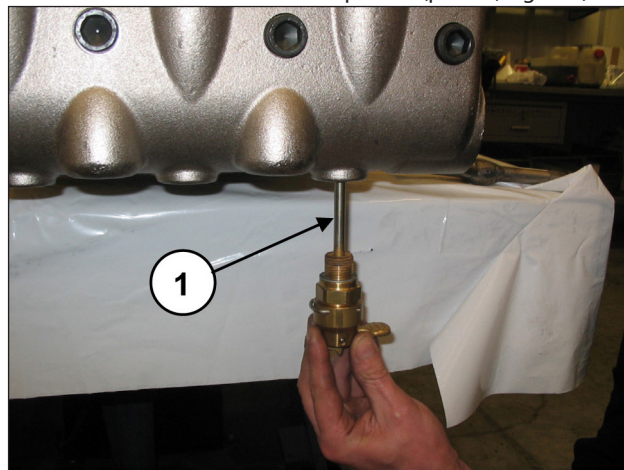
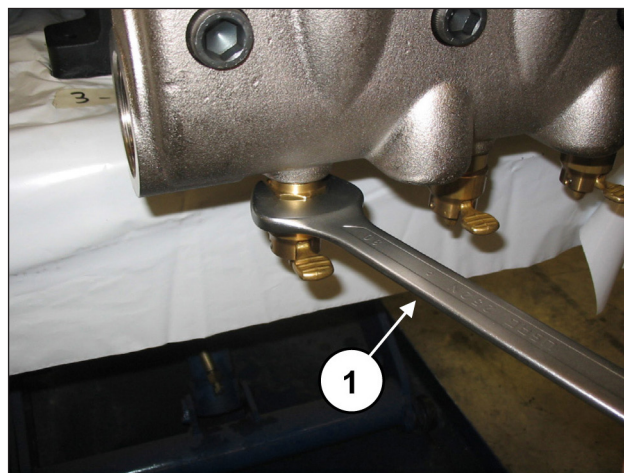

Fig. 109
Fig. 110
Apply the valve opening devices (pos. ①, Fig. 109) and screw them in with the use of a 30 mm spanner (pos. ①, Fig. 110).